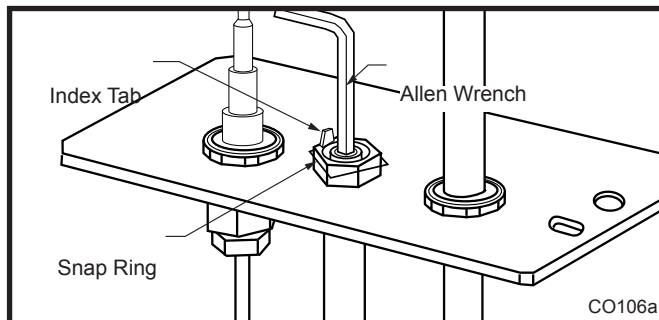

Fig. 54 Remove pilot orifice.
- Remove pilot orifice with allen wrench. (Fig. 54)